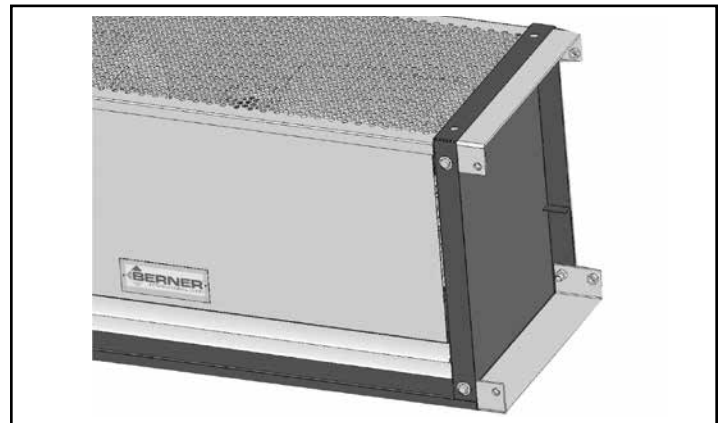

FIGURE 8 - Tandem Mounting for Vertical Mounting
- C. Using (4) $\frac{1}{2}$ - 13 x 1" bolts, attach the Tandem Mounting Brackets to the inside of one of the unit's end plates as shown in Figure 8.